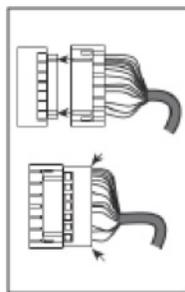

Figure 4
- Attach cable assembly connector to the inside part of the lock PC board by lining up notches on top of cable connector to slots on PCB connector (Fig. 4).